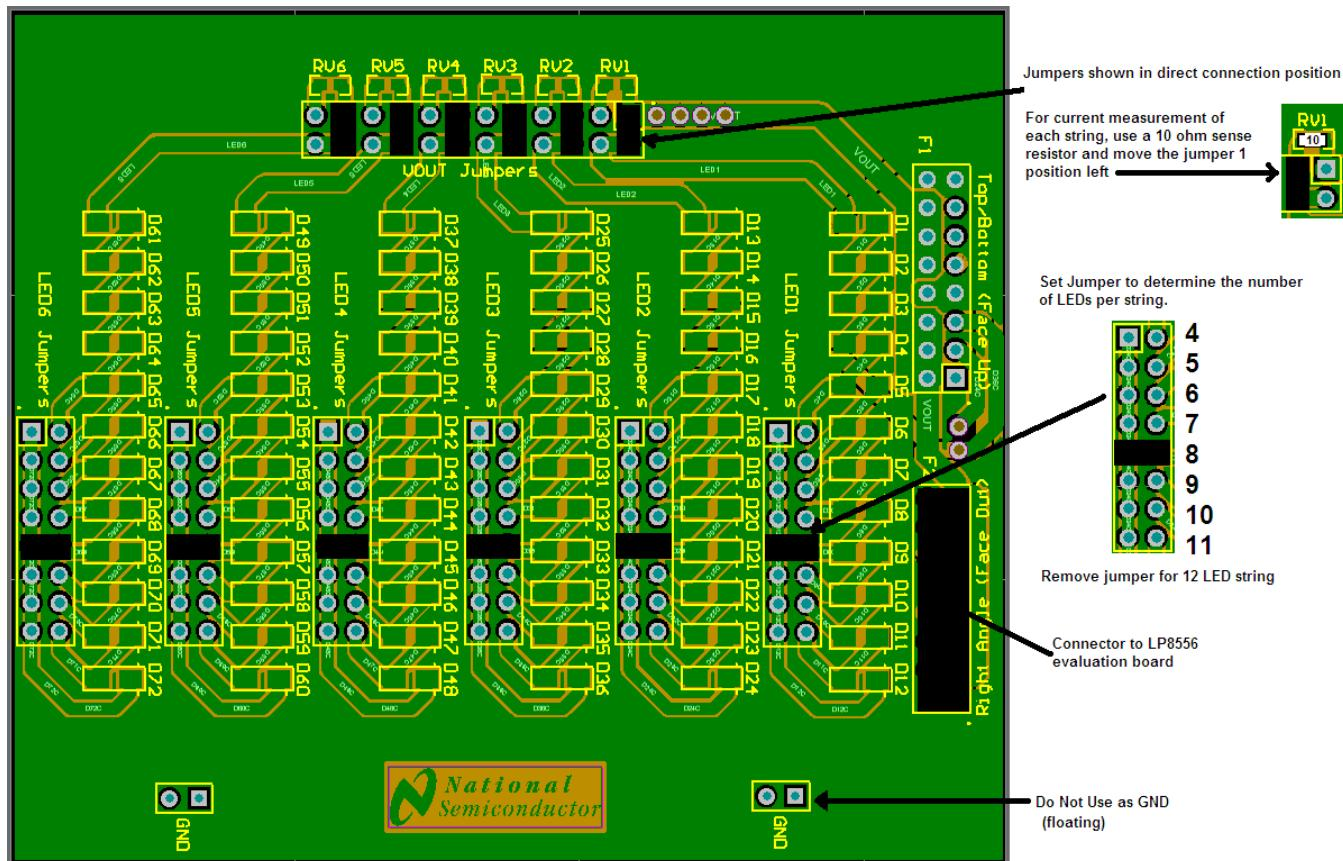

Figure 3. LED Loadboard
1. Connect the LED board to the LP8557 evaluation board. Set jumpers for 6 LEDs per string as shown in Figure 3.